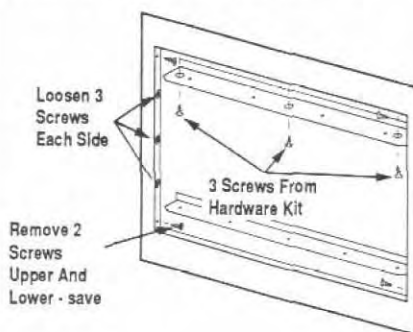
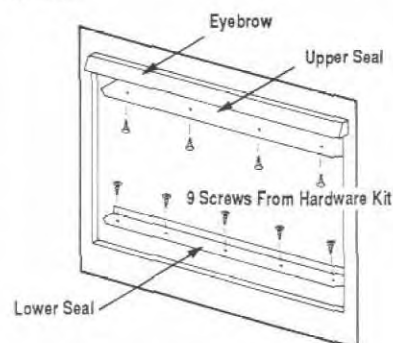

Figure 48
Figure 49
Step 1. Secure the eyebrow to the upper fireplace frame with three (3) sheet metal screws from the hardware kit. See Figure 48 for screw locations.
Step 2. Loosen the three (3) middle screws each side of the fireplace opening (Figure 48). Attach the polished brass side flange and tighten all screws. Repeat for opposite side of the opening.
Step 3. Remove the upper right and left side screws from the side frame (Figure 48). Attach the upper trim bar to the upper seal with four (4) black No. 8 Phillips pan head screws from the hardware kit (Figure 49) and secure the ends of the trim bar with two (2) upper screws just removed.
Step 4. Remove the lower right and left side screws from the side frames (Figure 48). Attach the lower trim bar to the lower seal with five (5) black No. 8 Phillips pan head screws from the hardware kit (Figure 49) and secure the ends of the lower trim bar with two (2) lower screws just removed. Assure the center screw is aligned and engages the center "C" bracket.